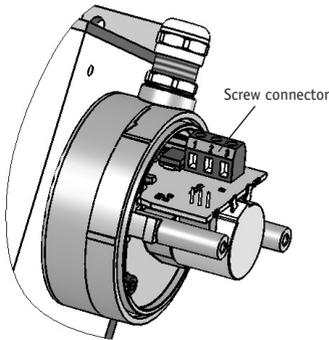

Fig. 10: Wire connection
- Connect strands to the terminal of the device (fig. 10).